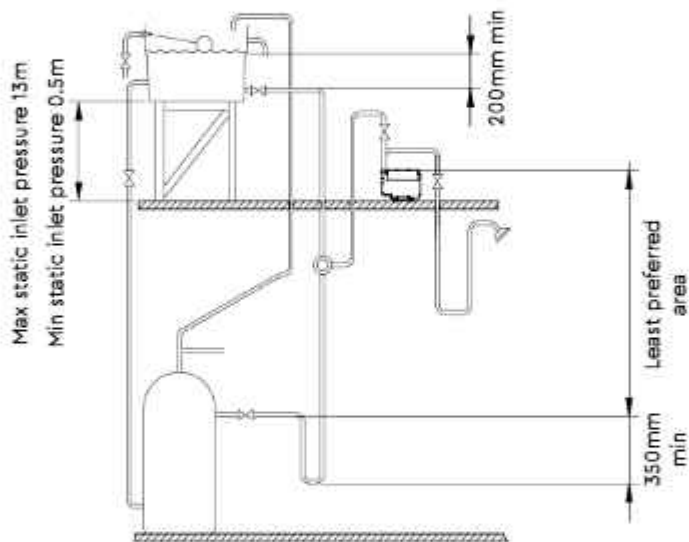
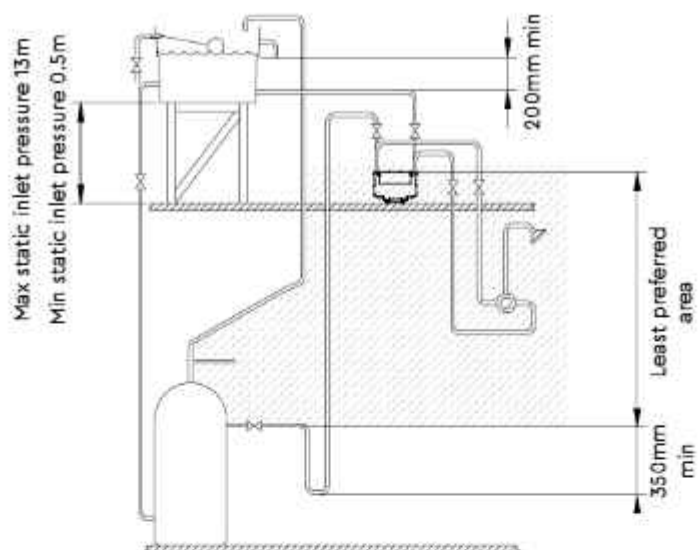

Figure 4
Figure 5
- **Static inlet pressure:** Before deciding where to locate the unit, check to ensure the static inlet head between pump and the bottom of the cold water tank (Figure 4 and Figure 5), is at least 0.5 metres and does not exceed the max inlet head of 10 metres or 13 metres depending on the model (See Sections 10 and 11 – Technical Specifications).
- The use of a side entry cylinder flange, which should have the addition of an inverted loop ("U" bend) of 350 mm minimum drop before rising to the pump, located as close as possible to the cylinder wall. This will ensure the pump receives an air free supply and the cylinder vents any air up the vent pipe and not the pump feed (Figure 4 Single Pump and Figure 5 Twin Pump).